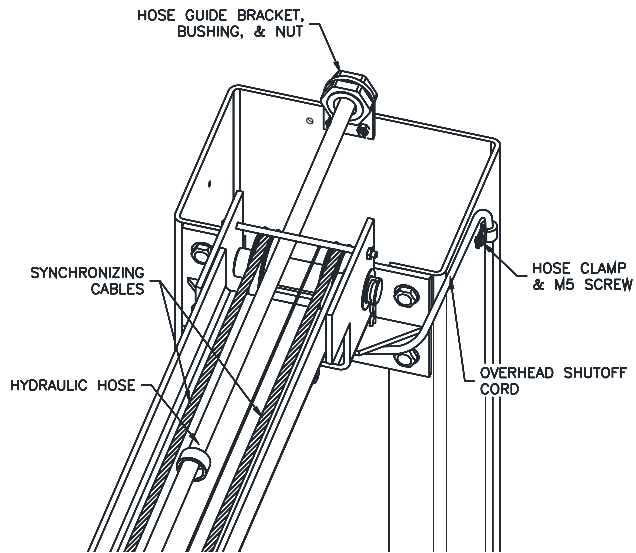

Fig. 8 – Power Side Routing
- 27) Hoses, cables, and limit switch cord should be routed as shown in Fig. 8 for power side column extension. Route lines for the idler side using the hose guide bracket and idler side pulley bracket.